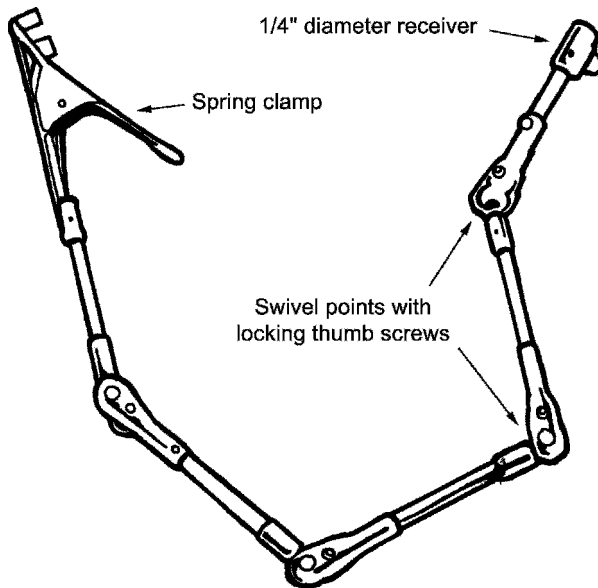

Figure 2.27 Flexarms.
1. Flexarms (Figure 2.27) are also referred to as *articulating arms*.